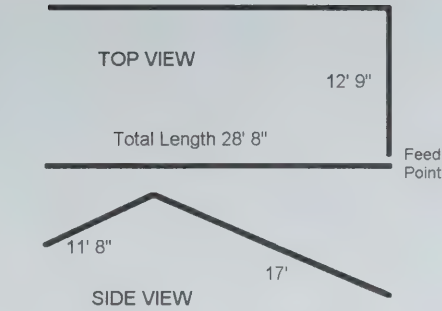

Fig. 2—Final configuration
**Try again:** This led to design number two. That's the nice thing about copper pipe antennas – with a pipe cutter and five minutes, your last antenna is turned into fresh stock for a new design! I bent the long elements so that the antenna could parallel the roofline, creating a shallow “inverted Vee” version of the EFA (see Fig. 2). Very simply, it is two elements 28-ft. 8-in. long, separated by a 12-ft. 9-in. section. This middle piece is connected at one end to one of the beam elements by a 90 degree copper elbow. Together, the longer element totals 59% of the total antenna length and the single 28-ft. 8-in. beam is 41% of the total antenna length. The total antenna length, 70-ft. 5-in., represents the length of a resonant 40M dipole. The antenna is fed at the open corner where the unconnected beam meets the 12-ft. 9-in. segment. If you trim the elements a little to tune the antenna, remember to preserve the 59/41 ratio – such as trimming six inches off the longer element and four inches off the shorter element.